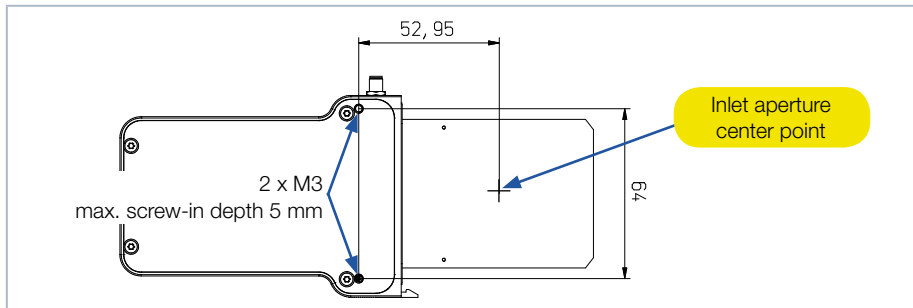

Fig. 8.2: Mounting threads, bottom view
2. Install the device with the mounting threads M3 at the bottom of the device (see Fig. 8.2 on page 16).
3. Unscrew 2 screws from the 2 mounting threads M3 on the underside of the device (see Fig. 8.2 on page 16).